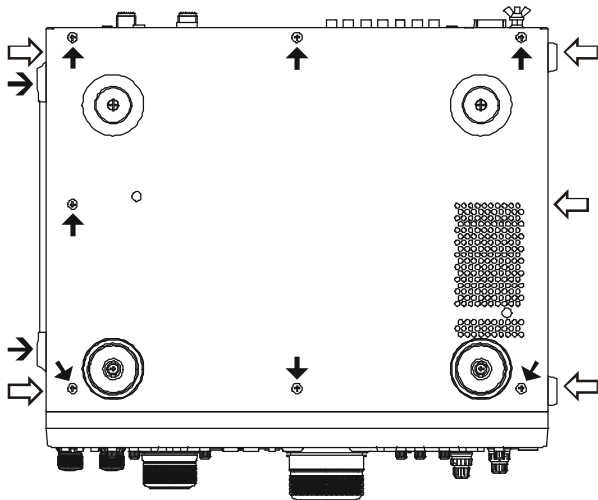

Figure 1
- Referring to Figure 1, remove the carrying handle and its two screws ( $\rightarrow$ ), then remove the four screws ( $\Leftrightarrow$ ) on each side of the transceiver, and the seven screws ( $\rightarrow$ ) from the bottom of the transceiver, then lift off the bottom cover.
- ❑ Referring to Figure 1, remove the carrying handle and its two screws (→), then remove the four screws (⇔) on each side of the transceiver, and the seven screws (→) from the bottom of the transceiver, then lift off the bottom cover.